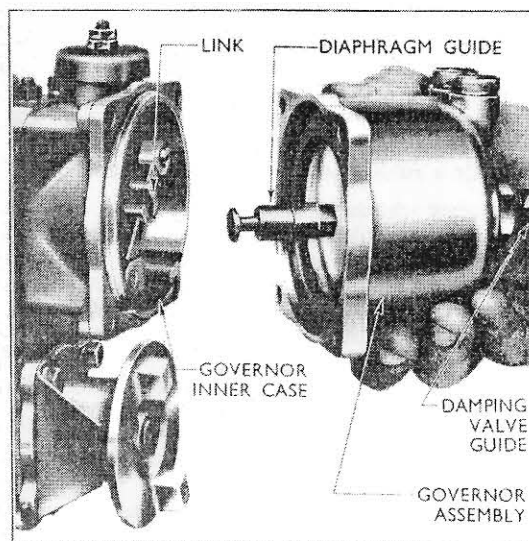

Fig. 8.
2. Unscrew the four bolts securing the governor assembly to the injection pump and lift the diaphragm guide from the governor link (see Fig. 8).
2. Remove the four screws securing the governor assembly to the governor inner case, and lift the diaphragm guide clear of the governor link to remove the assembly (see Fig. 8).